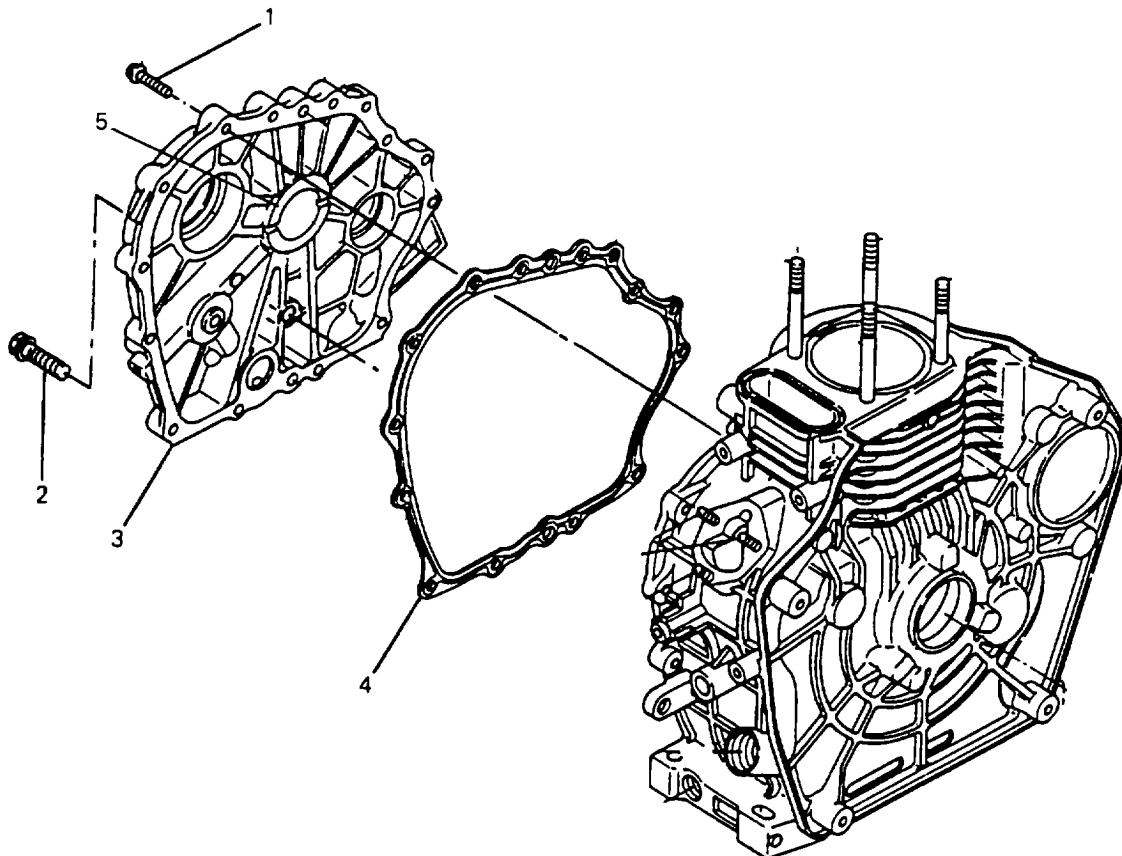

Figure 6-5. Replacing Crankcase Cover
REMOVAL: Refer to Figure 6-5.
- (1) Remove bad bearing (3) using a mechanical bearing puller.
- (2) Pressfit the new ball bearing (3) into the crankcase cover (2).
- c. Refer to Figure 6-5. Replace crankshaft oil seal.
- (1) Insert new crankshaft oil seal (5) into crankcase cover (3).
- (2) Insert crankshaft seal into crankcase cover until it is 0.1575 inch (4 mm) deep from the end of crankcase.
- d. Replace crankcase cover gasket (4).
INSTALLATION: Refer to Figure 6-5.